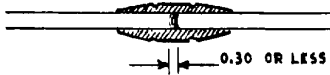

Figure 5.
2. Refer to Figure 5, 6, 7, and 8 to determine the repair method required.